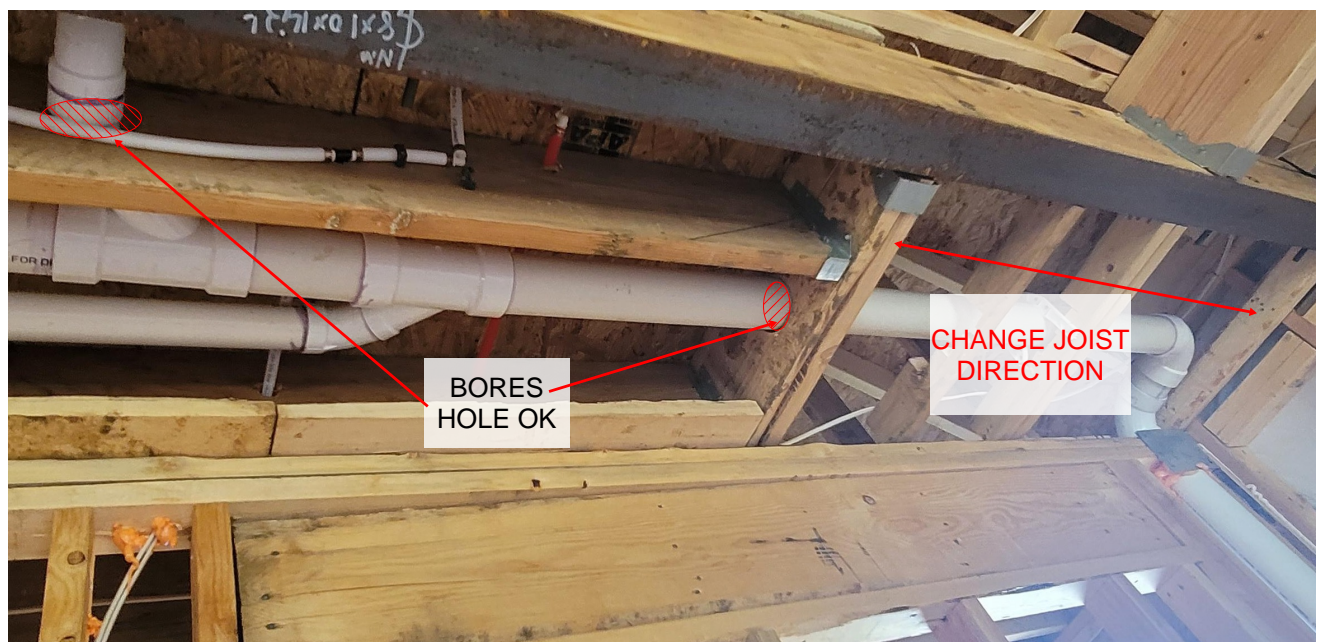

Figure 2.0 – Master Bathroom Entry Notches
- Two large square notches were observed in ceiling joists at the master bath entry. Our firm recommends replacing the ceiling joists with DFL #2-2x6 at 16" on center and rotate the joist direction 90 degrees. Reference Figure 2.0.